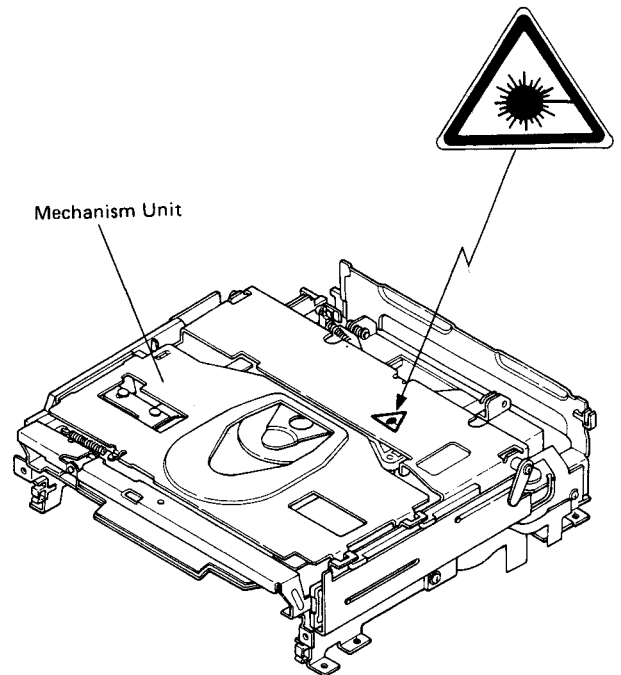

Fig. 3
3. The triangular label is attached to the mechanism unit plate unit (Fig. 3)